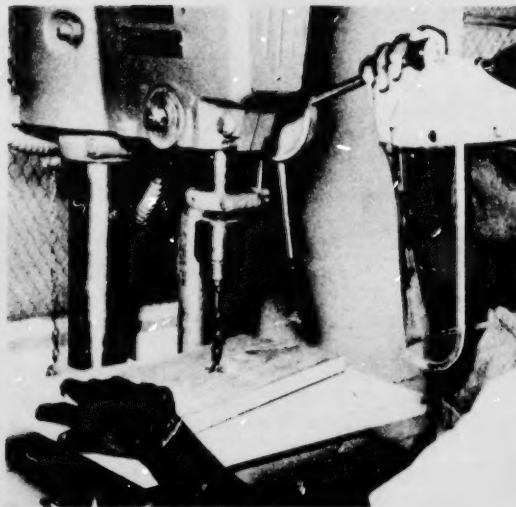

Figure 17-9 Using the drill press
11. Apply an even pressure on the feed lever to start to cut (*Figure 17-9*). If the wood begins to smoke, release some of the pressure on the feed lever, and apply pressure again.